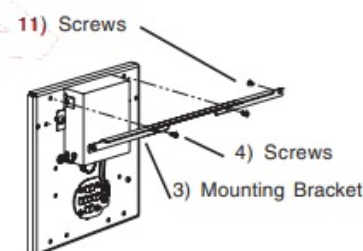

Fig 9
2. Install Screws (11) into outer most holes in Mounting Bracket (3) See Fig 9.
3. Install mounting bracket by inserting Screw (4) through hole in bracket and secure to housing. Install second screw through slot in bracket and secure to housing. See Fig 9.